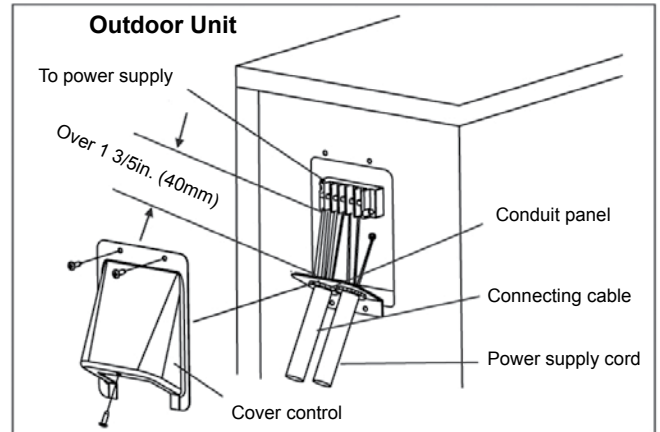

Fig. 24
1. Remove the electrical control cover from the outdoor unit (Fig. 24).